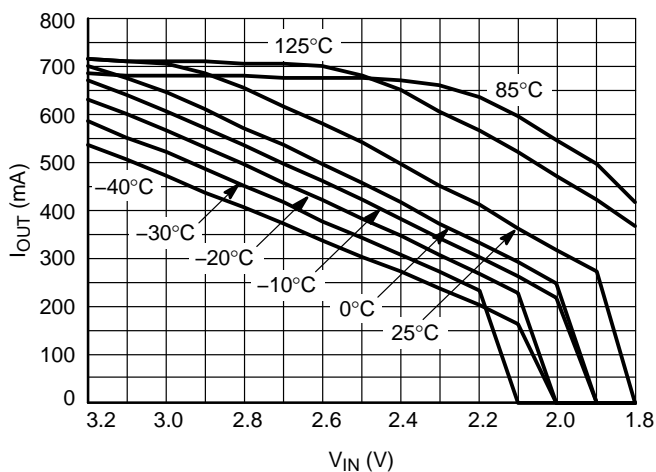

Figure 22. Output Current Capability for the 1.5 V Version
28. For output current capability for  $T_A < 0^\circ\text{C}$ , please refer to Figure 22.